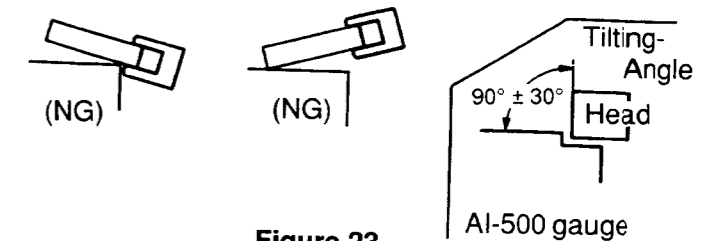

Figure 23
- (4) Adjust the height of the head as shown in Figures 23, 24 and 25.
- ① Place the height adjustment gauge (AI-500) on the head base, and adjust the height so that the check bar fits in the tape head guide smoothly.
- ② When the check bar touches the top (or bottom) of the tape guide, insert a spacer (t 0.1 mm or polislider washer t 0.13 mm).